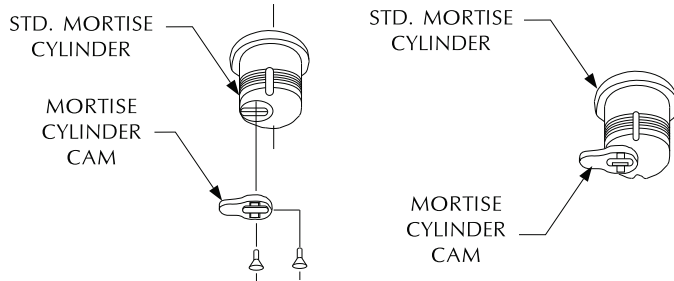

FIGURE 1
1. REMOVE MORTISE CYLINDER CAM AND REINSTALL IN REVERSE (FIGURE 1).